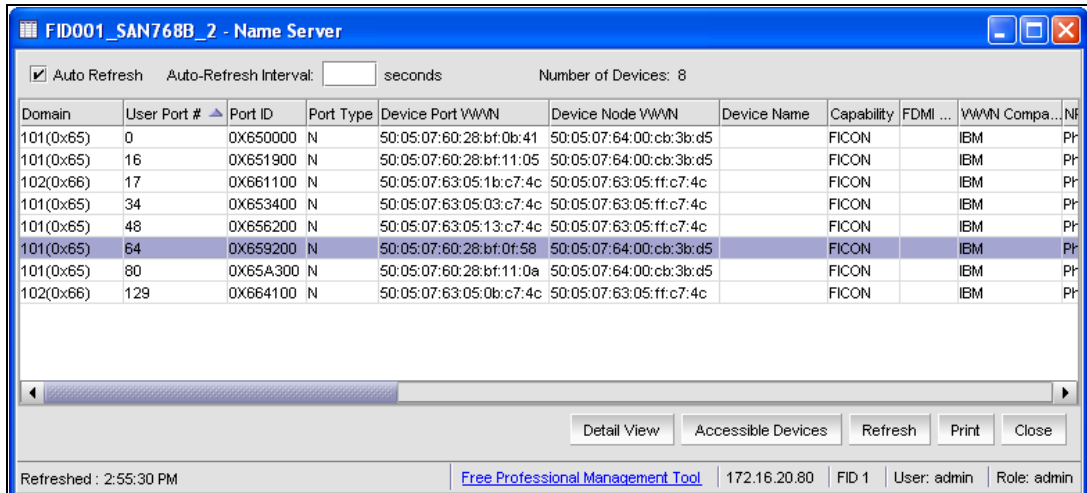

Figure 10-5 Node Descriptor overview
2. In the Directors Element Manager, click **Name Server** at the left side of the window to open the Name Server window displaying all connected devices, as shown in Figure 10-5 on page 363.